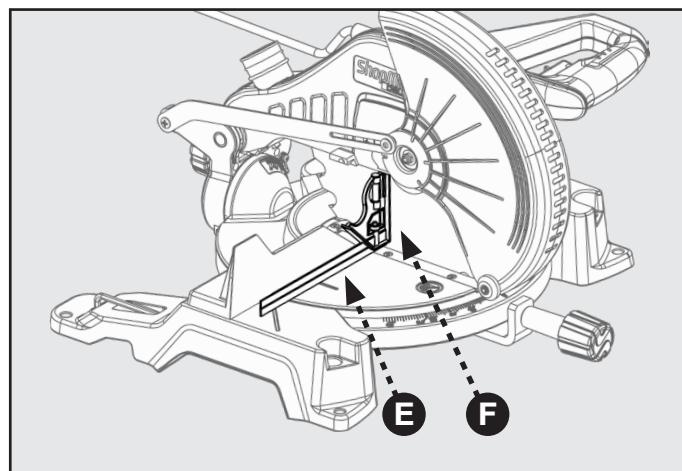

FIGURE 13
Refer to Figure 13.
7. Place a combination square (E) against the table and the face of the saw blade (F) square contacts the flat part of the saw blade, not the blade teeth.
9. The edge of the square and the saw blade should be parallel as shown in Figure 13.